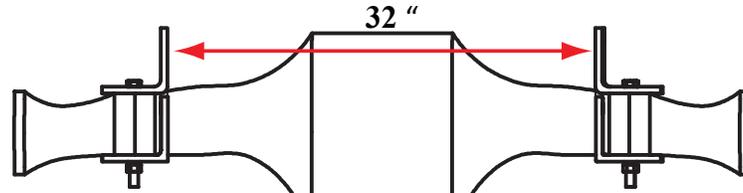

Figure 2
**Step 4.** Adjust (with hammer taps if needed) left and right axle brackets so that the inside measurement of the axle brackets is 32 inches. (Figure 2)